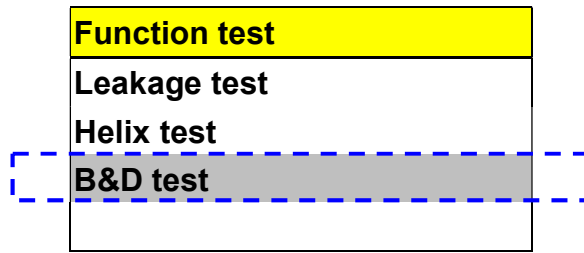

Figure 115
D. Press  or  button to select B&D Test program (Figure 115).